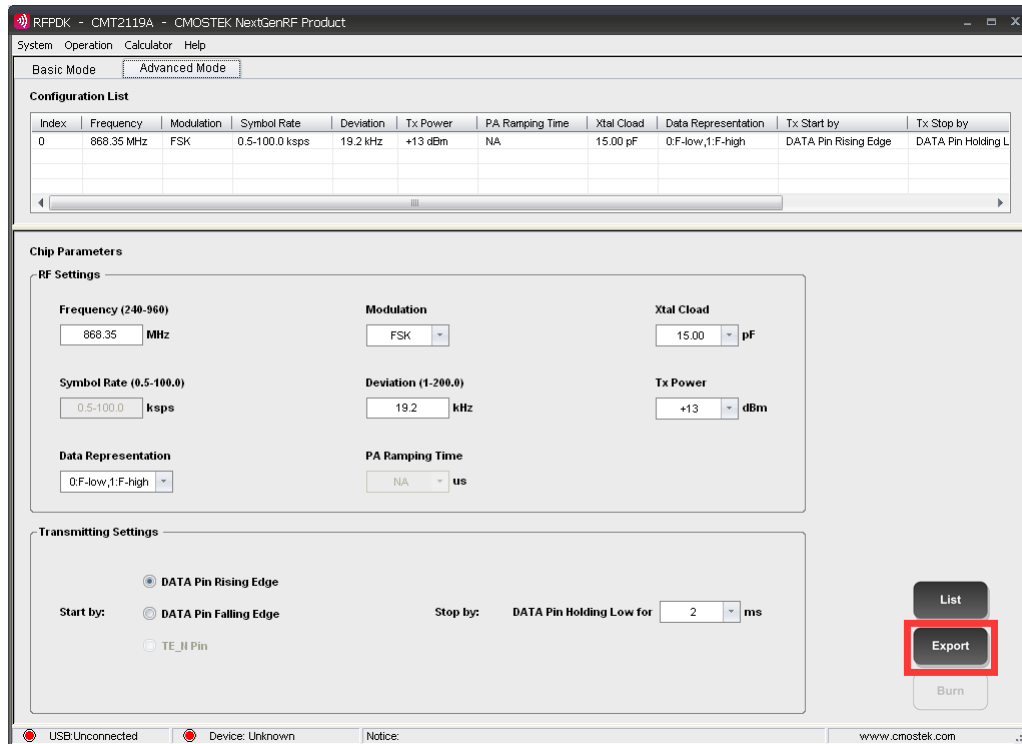

Figure 26. Export Button on the RFPDK
- As a specific feature could be related to several registers, in order to change the feature correctly, the user is recommended to find out the corresponding registers by Export function on the RFPDK, as shown in Figure 26 . For more RFPDK details, refer to “AN103 CMT211xA-221xA One-Way RF Link Development Kits Users Guide”. An example of changing the frequency from 433.92 MHz to 868 MHz is listed below.